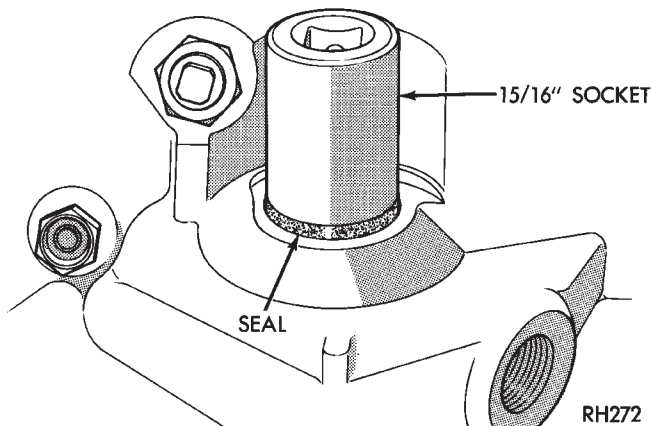

Fig. 158 Installing Manual Lever Shaft Seal
(54) Install magnet in oil pan. Magnet goes on small protrusion at corner of pan.
(55) Position new oil pan gasket on case and install oil pan. Tighten pan bolts to 17 N•m (13 ft. lbs.).
(56) Install new valve body manual shaft seal in case (Fig. 158). Lubricate seal lip and manual shaft with petroleum jelly. Start seal over shaft and into case. Seat seal with 15/16 inch, deep well socket.